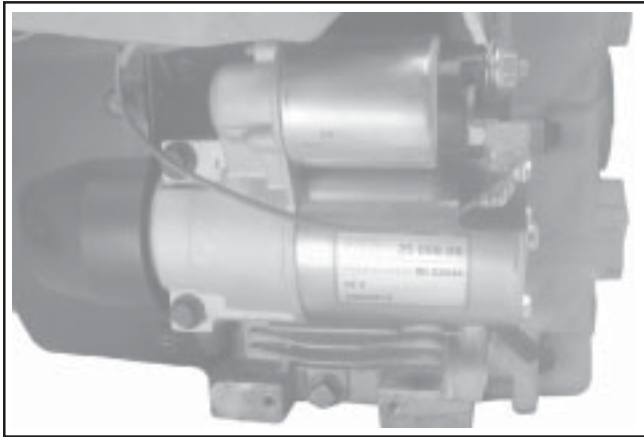

Figure 11-74. Connecting Leads to Starting Motor.
- On models with a solenoid shift starter, connect the leads to the solenoid. See Figure 11-74.